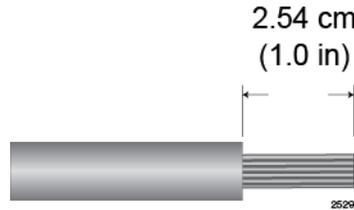

Figure 137. Stripping Solid or Stranded DC Power Wires
1. Prepare adequate lengths of two solid or stranded 8 AWG DC power wires by stripping them as shown in Figure 137.